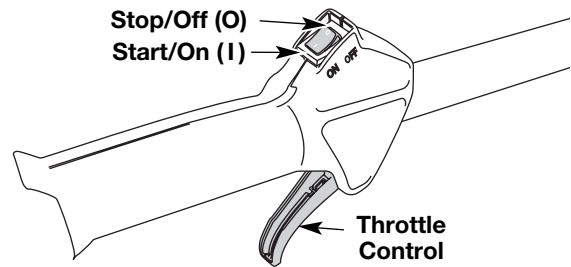

Fig. 8
3. Make sure the On/Off Stop Control is in the ON (I) position (Fig. 8).